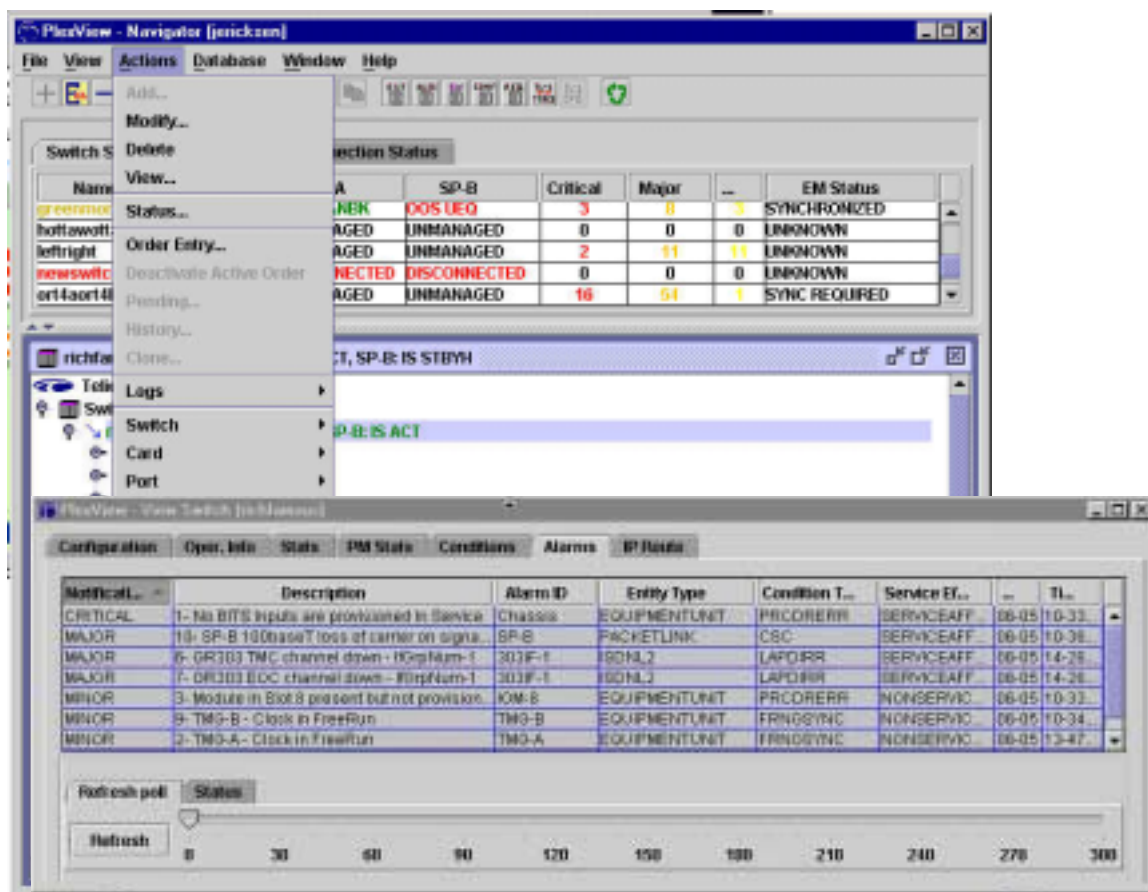

Figure 2. Retrieving Alarms
30. Select the switch for which you will be troubleshooting alarms. In the toolbar, select *Actions*, then *View* and then *Alarms*. Refer to Figure 2.